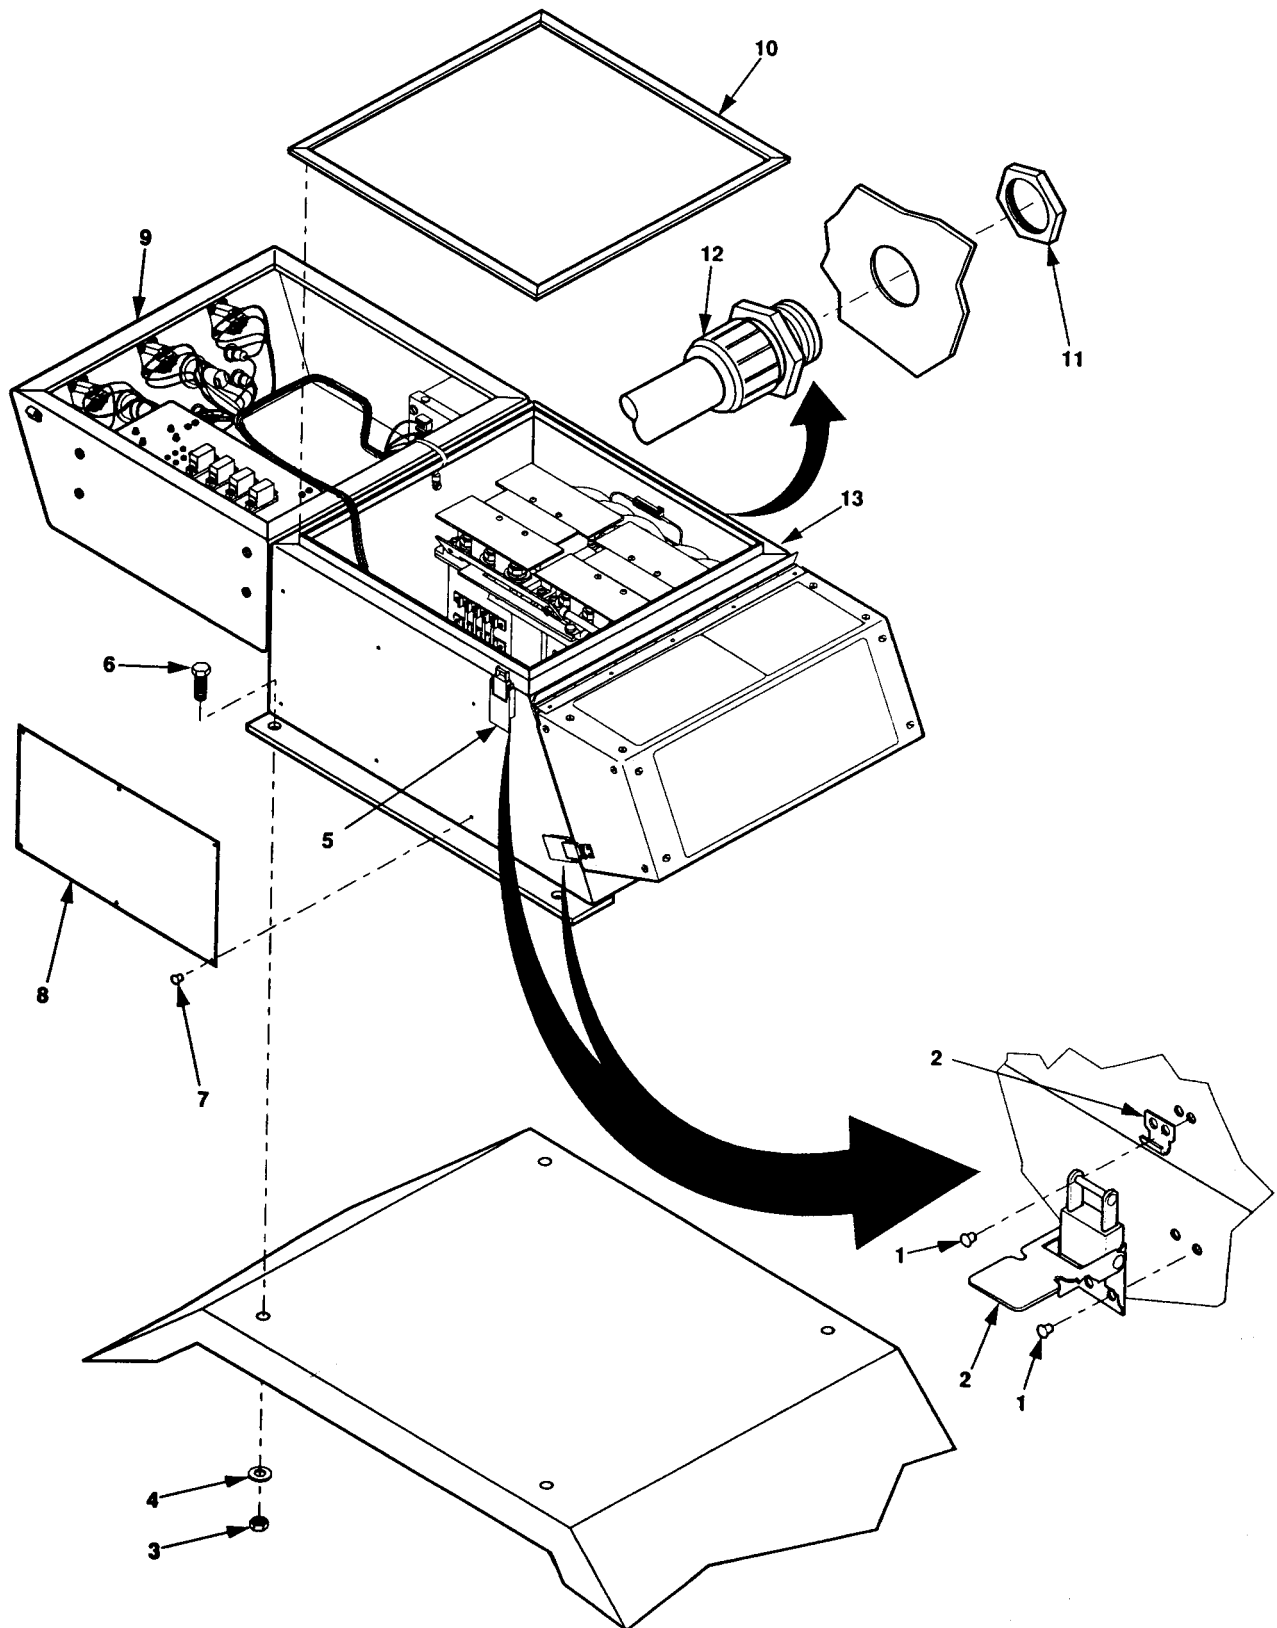

Figure 4-13. Switch Box Repair.
1. Release clamping catches (5, figure 4-13) and open switch box cover (9).